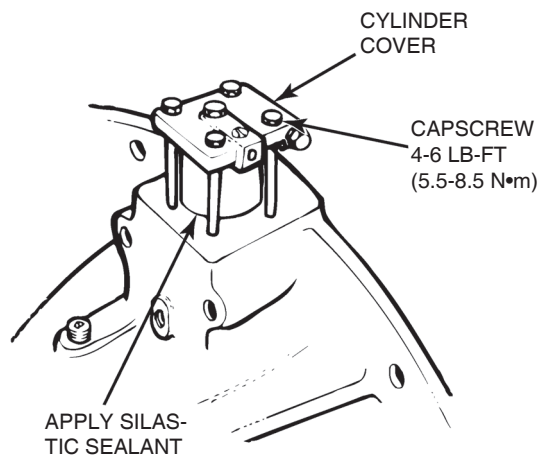

Figure 6.30
11. Install the copper gasket, if used, into its bore on the inside of the cylinder cover. Place the cover into position over the cylinder so that the air intake port will point up when the differential is installed into the housing. Install the cover with the four attaching capscrews and washers. Tighten the capscrews to 4-6 lb-ft (5.5-8.5 N m). Figure 6.30.